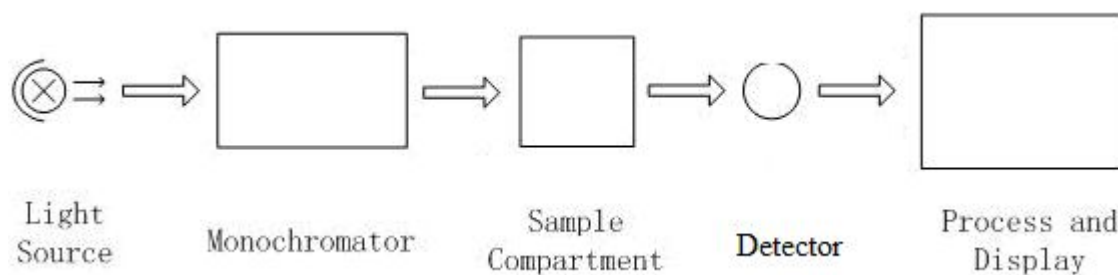

Fig 2.4 Block diagram for the Spectrophotometer
- 5) A digital display to indicate absorbance or transmittance. The block diagram (Fig 2.4) below illustrates the relationship between these parts.